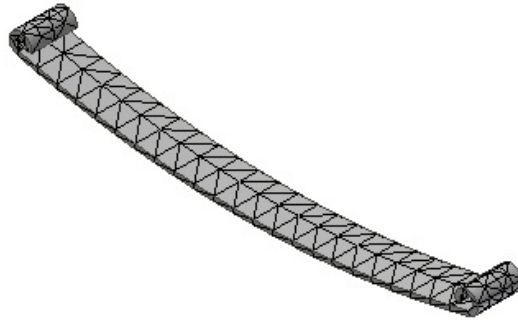

Figure 18-60 The meshed model with default mesh settings
1. Choose the **Mesh View** tool from the **Mesh** panel of the **Stress Analysis** contextual tab; the **Mesh** progress box will be displayed. Once the meshing process is done, the meshed model is displayed in the drawing area, as shown in Figure 18-60.